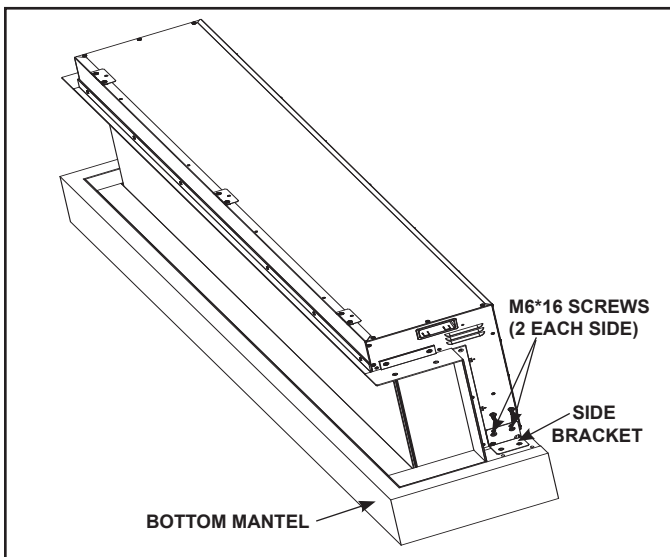

Figure 14
6. Secure the bottom mantel to the side brackets using two (2) M6\*16 screws. See Figure 14.